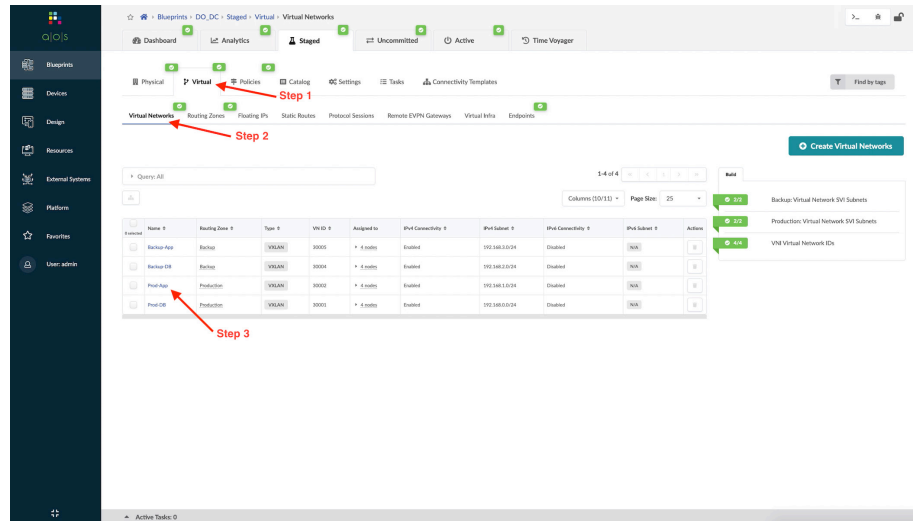
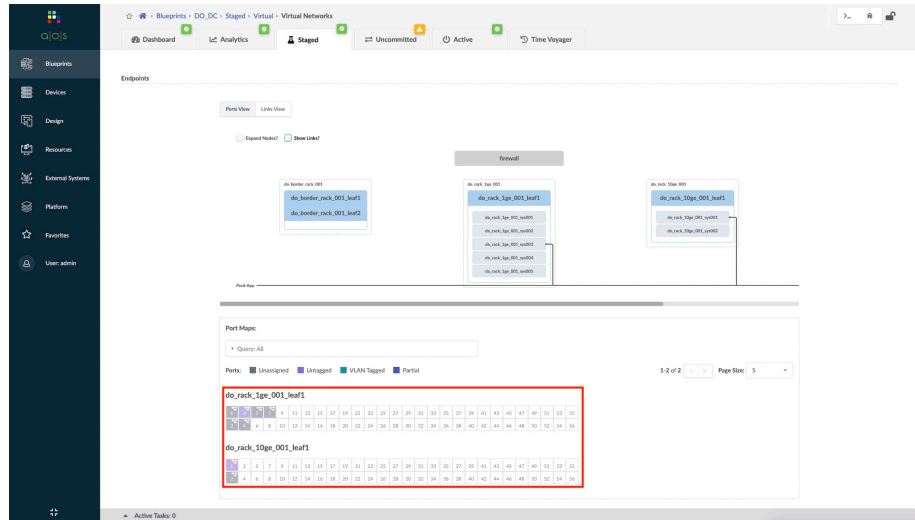

Figure 7.32 Selecting VNI
Figure 7.36 Viewing VNI Port Assignment Post-Change
Step 1: From the given blueprint got to Staged > Virtual. See Figure 7.32.
Once complete the changes are staged, ready to be committed. To view the changes redo steps 1-3 as shown in Figure 7.32 and 7.33. Figure 7.36 shows the changes applied after these steps are complete.